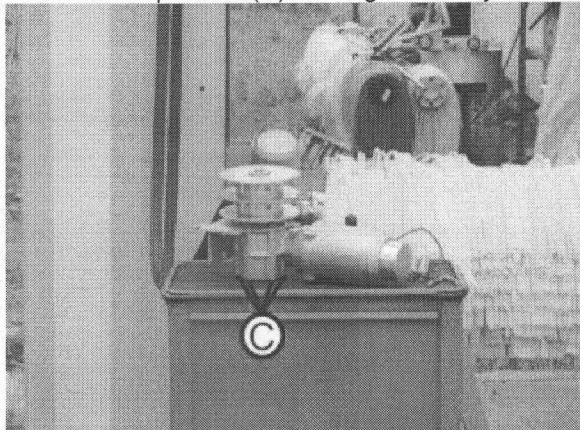

Fig. 061
6. Loosen retaining screw from shaft and remount without washer. Then screw on the extractor 4.263-030 at position (C) of the gear and eject the shaft (Fig. 061).